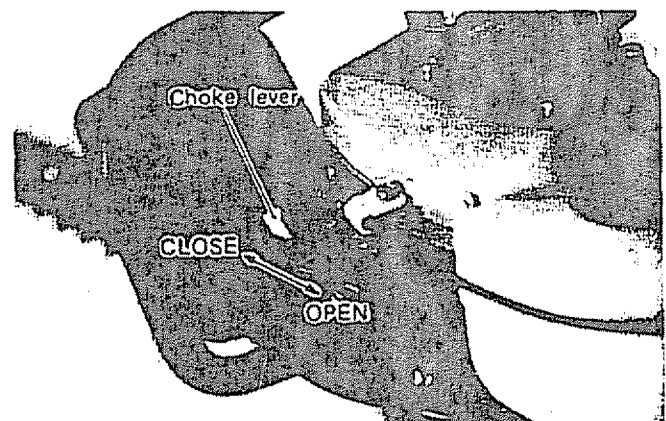

Figure 2
2. The choke control is a "Lever" type. (See Figure 2). To choke the engine, push the choke lever to "Close" position. NOTE: If the engine is warm, it may be started with the choke lever mid-way between "OPEN" and "CLOSE", depending on the individual engine.